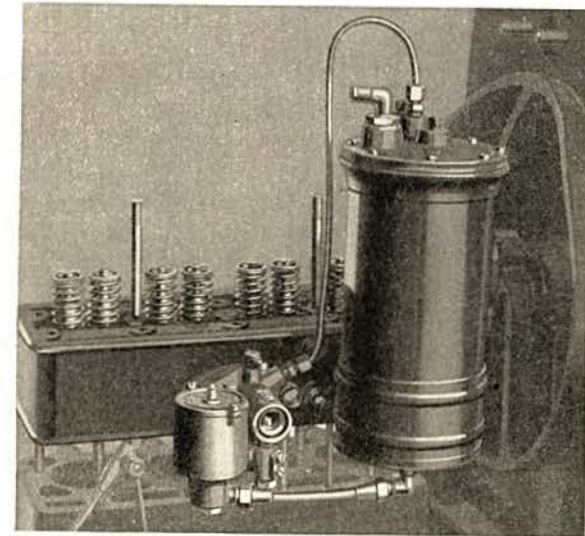

Figure 25
10. Lift cylinder head from block. BE SURE NOT TO INJURE THE COPPER ASBESTOS CYLINDER HEAD GASKET. Do not pry the head up with a screwdriver. Use a block of wood, tapping gently until head is loosened, then lift off cylinder block. (See Fig. 25.)
The exhaust manifold, carburetor, and vacuum tank are removed with the cylinder head. (See Fig. 25.)